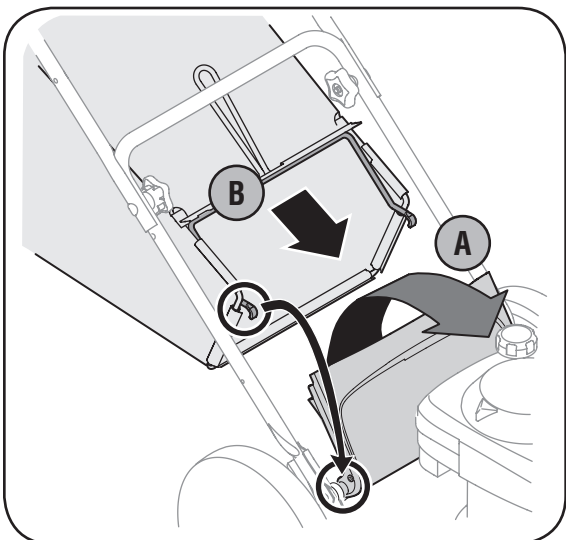

Figure 3-6: Attach the grass catcher.
- a. Lift rear discharge door. See Figure 3-6.